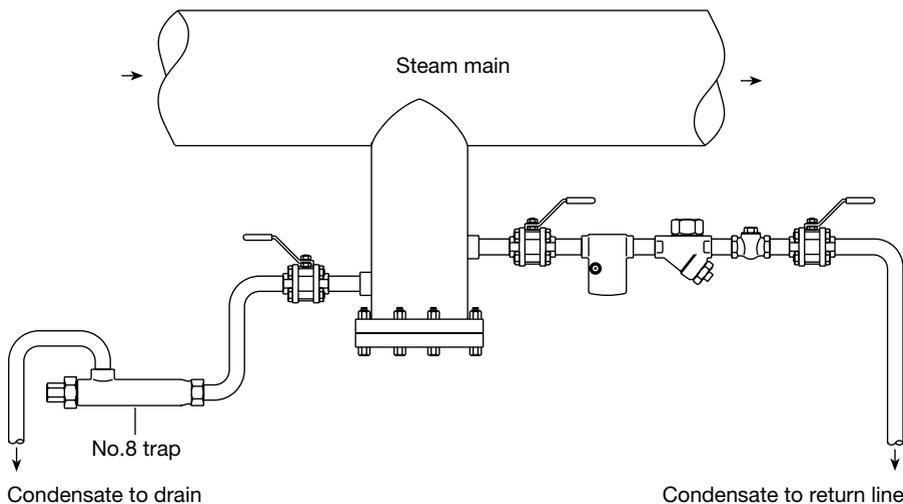

Fig. 2
- 3.5** Because of its fixed temperature discharge characteristic, the liquid expansion trap may be usefully employed as a 'shutdown drain trap'. Its outlet must always point upwards, as illustrated in Figure 2, to enable continuous immersion of the oil filled element, and be routed via an open ended drain terminating below its body to a safe place. As it can only discharge between 60°C - 100°C (140°F - 212°F), it needs to be installed in conjunction with a 'normal' mains drain trap which would usually be piped to a condensate return line.